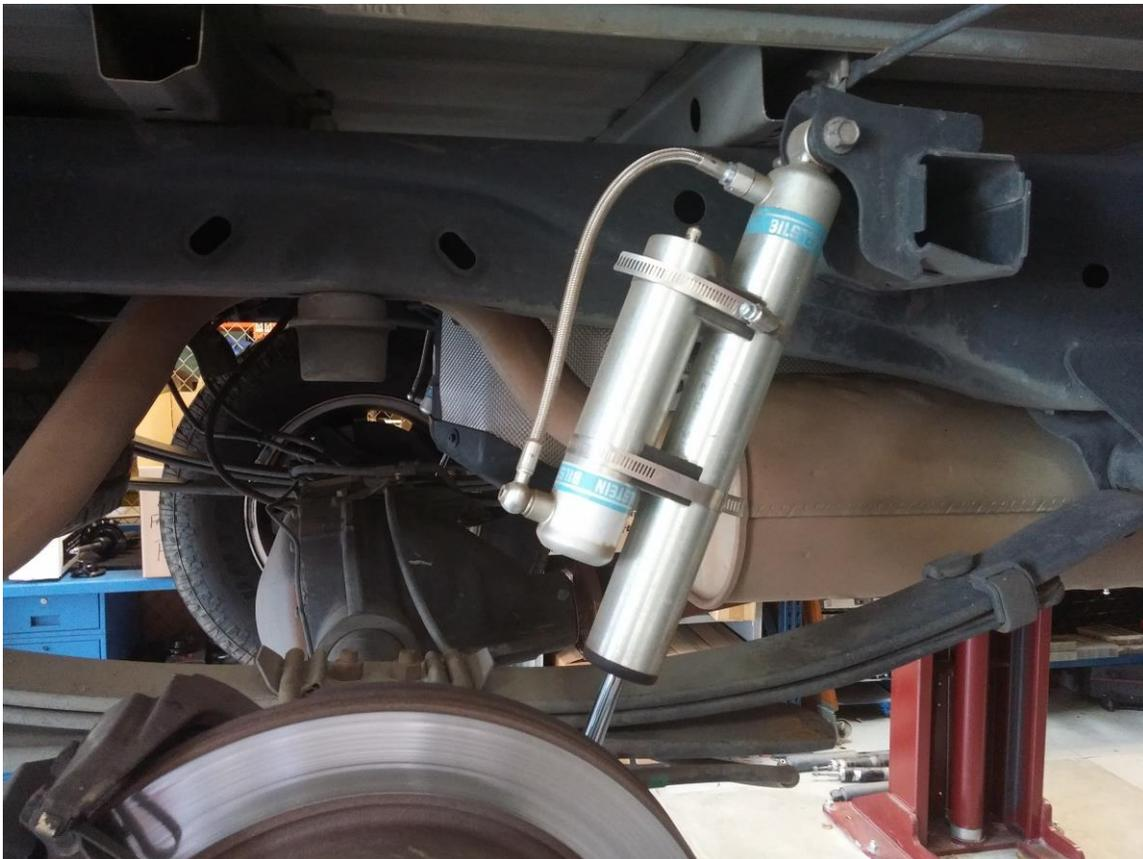

Figure 1. Reservoir placement for both sides
- B. Before installing the shock/reservoir assemblies on the vehicle, use the supplied "piggyback" hardware to mount each reservoir to its shock body. Each reservoir is mounted using two polyurethane isolator blocks and two steel hose clamps. Please note that the position of each reservoir relative to its shock body is the same for each side of the vehicle. The reservoir is on the back side of the shock towards the rear of the truck. The reservoir position is depicted in Figures 1 and 2. The hose fittings are designed to swivel and will allow the reservoir and hose to be easily moved.